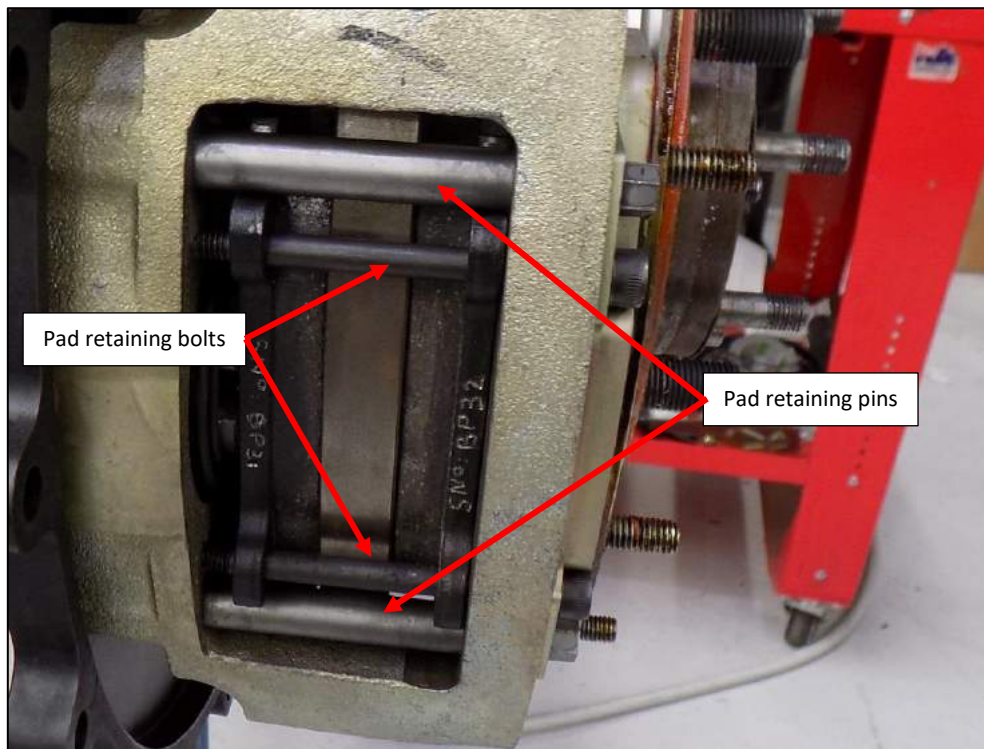

Figure 61
3. Remove the brake pad retaining pins and cap head bolts from the caliper (Figure 61).